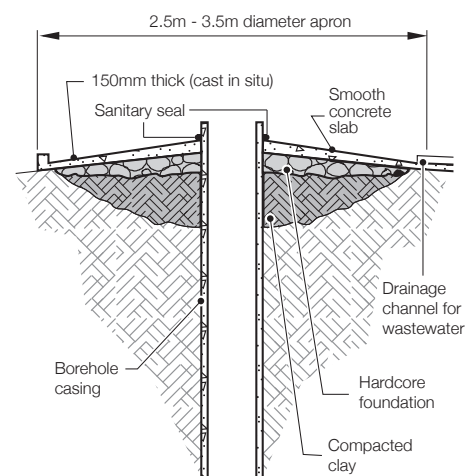

Figure 2.2. A sanitary seal and well apron (see Box 2.1)
In general, groundwater contains no or low levels of harmful pathogens but it can be polluted with naturally occurring chemicals. Unfortunately, the quality of water drawn from handpumps fitted to boreholes is variable. Contamination can be caused by poor sanitary protection at the top of the borehole. The installation of a sanitary seal and a well apron can dramatically reduce contamination from the ground surface (Figure 2.2). Sources of further information about improving and upgrading boreholes are given on page 2.4.
5. Repair the clay sanitary seal at the top of the borehole and the drainage apron around the borehole to prevent surface contamination of the groundwater (Figure 2.2, page 2.1).